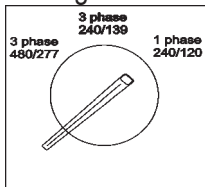

Figure 39. Voltage Selection Switch
5. Check the voltage selection switch (Figure 39) is at the desired voltage.